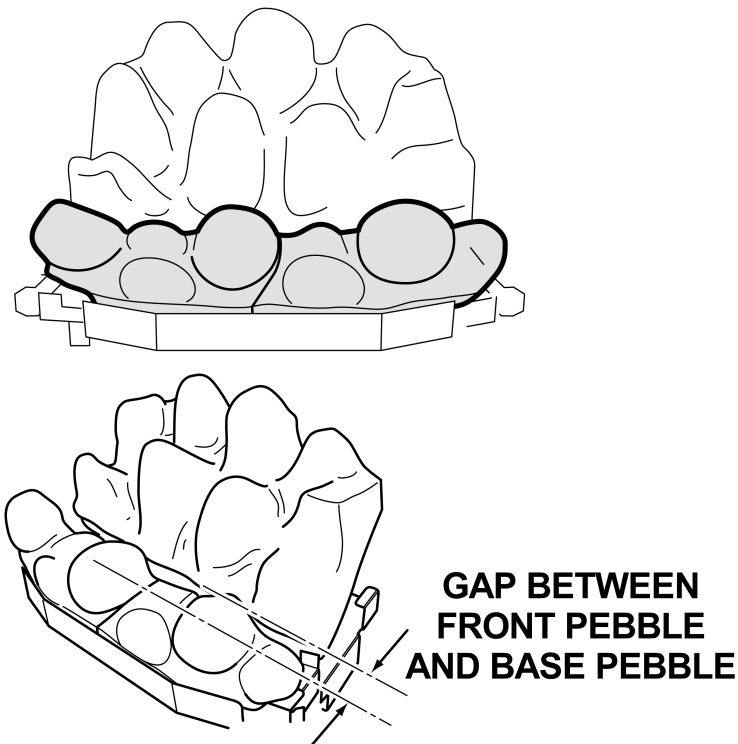

Figure 28. Front Pebble Location
3. Place the left-hand ceramic front pebbles in position in front of the base pebbles (See figure 28).
4. Place the right hand ceramic front pebbles in position in front of the base pebbles. This should join with the left-hand pebbles. Push the two sides together to minimise the gap. (See figure 28).
5. There will be a gap between the rear of the front pebbles and the front of the base pebbles. (See figure 28).
the rear of the front pebbles and the front of the base pebbles. (See figure 28).